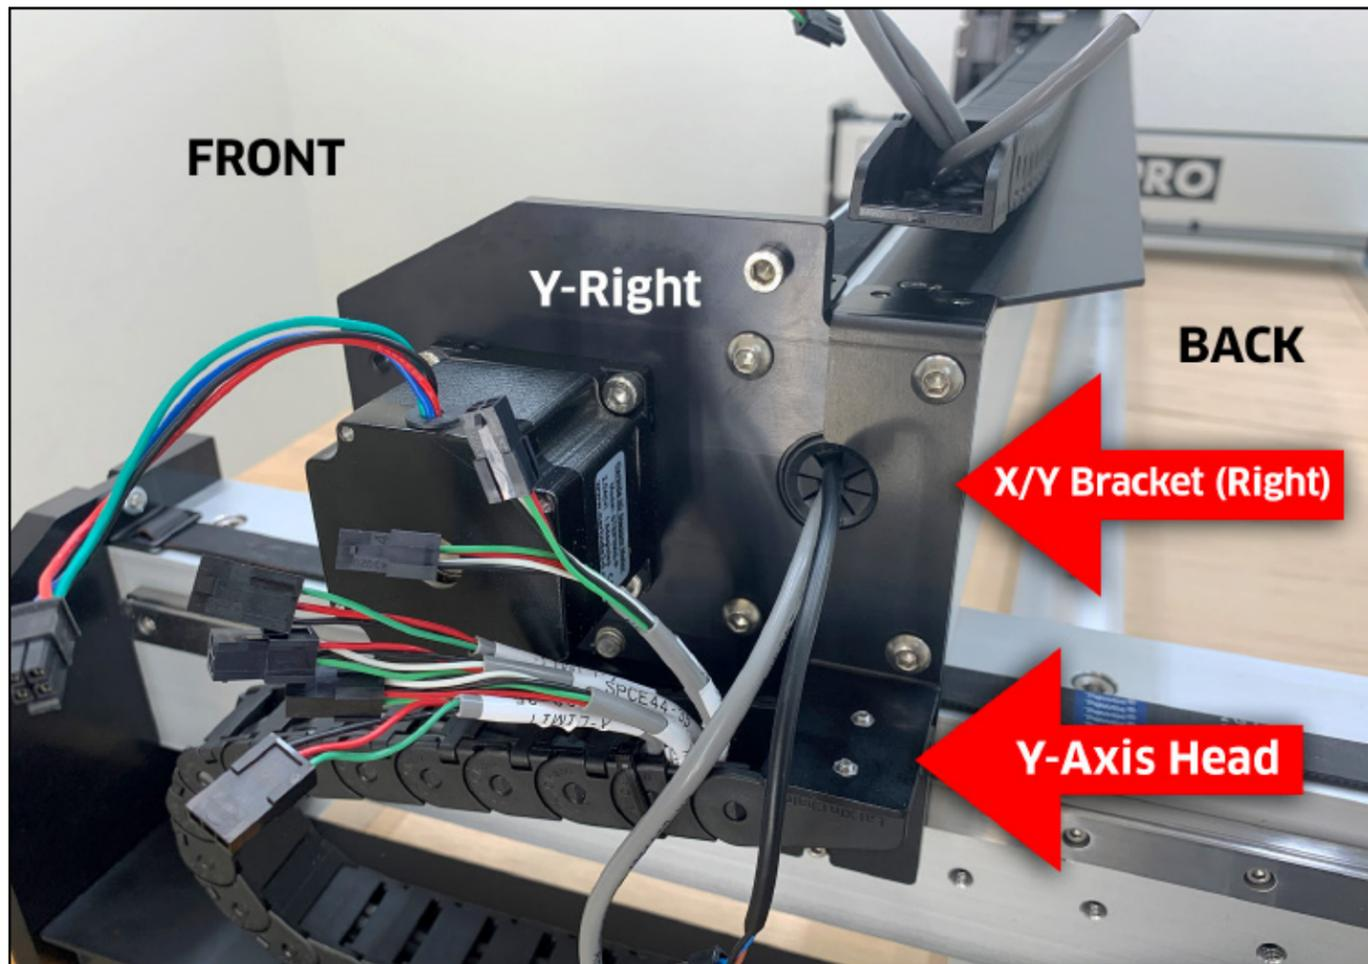

Figure 6-5
1. Use a 4mm hex key to remove the back two (2) M6×12mm BHCS from the right gantry endplate.
2. Position the bracket and Y-Axis drag chain combo alongside the Y-Right rail. **See Fig. 6-5.**
3. Use a 4mm hex key and two (2) M6×12mm BHCS to secure the bracket to the gantry. Fully tighten.